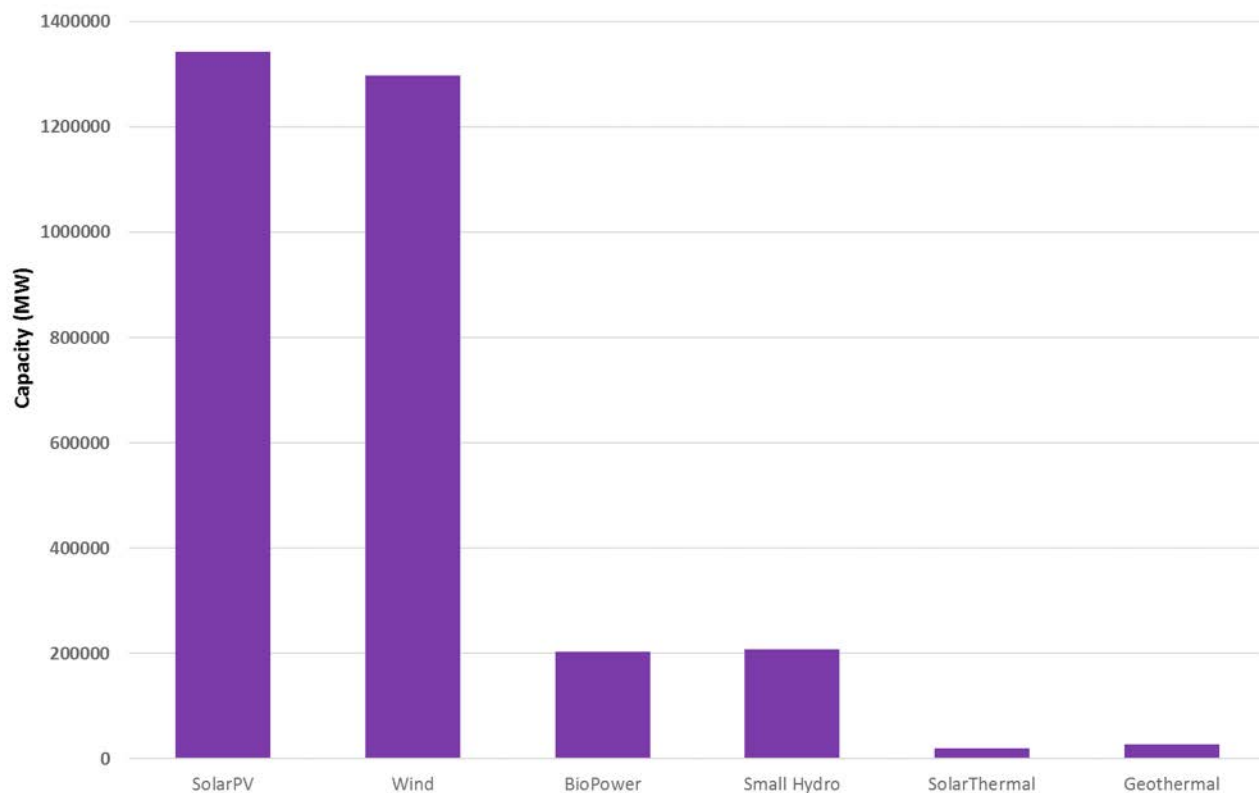

Figure 9: Global renewable power market additions (MW), 2017–2030
- Figure 9: Global renewable power market additions (MW), 2017–2030 12
AP1000 nuclear power plants, but is only a very small percentage of the total capacity expected to be added in renewable power (see **Figure 9**). However, Flowserve has historically been able to capture a large share of CSP projects, and the sector remains a significant part of the company's power generation business.